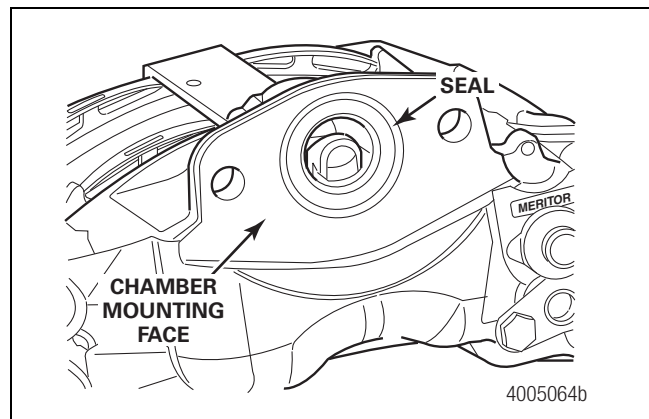

Figure 6.9
- Inspect the chamber mounting face on the caliper for corrosion. Remove any light corrosion with an abrasive. Figure 6.9. Check the chamber seal for damage, dents or defects. Replace the seal if the damage, dent or defect is enough to compromise the integrity of the seal.